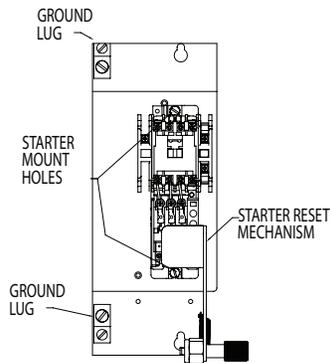

Figure 7 – Starter
Grounding and bonding of the conduit and equipment is required by the National Electrical Code. A grounding conductor, when used, must be connected to the grounding lug(s), furnished (see Figure 7). Suffix S214 provides an external ground lug in bottom left corner of enclosure.
1. To facilitate motor starter installation, select the correct mounting holes for the starter type being installed on mounting plate. Secure starter to mounting plate with screws provided (see Figure 7).